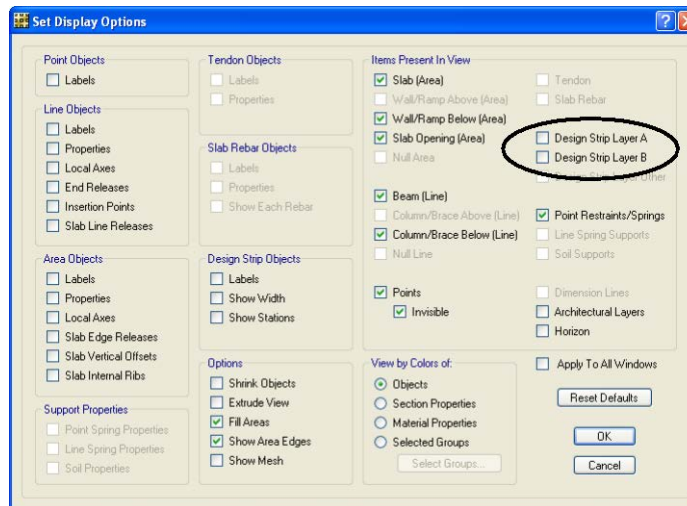

Figure 33 Set Display Options form
- A. Click the **View menu > Set Display Options** command. When the Set Display Options form displays, uncheck the *Design Strip Layer A* and *Design Strip Layer B* check boxes in the Items Present In View area, as shown in Figure 33. This action will turn off the display of the design strips.